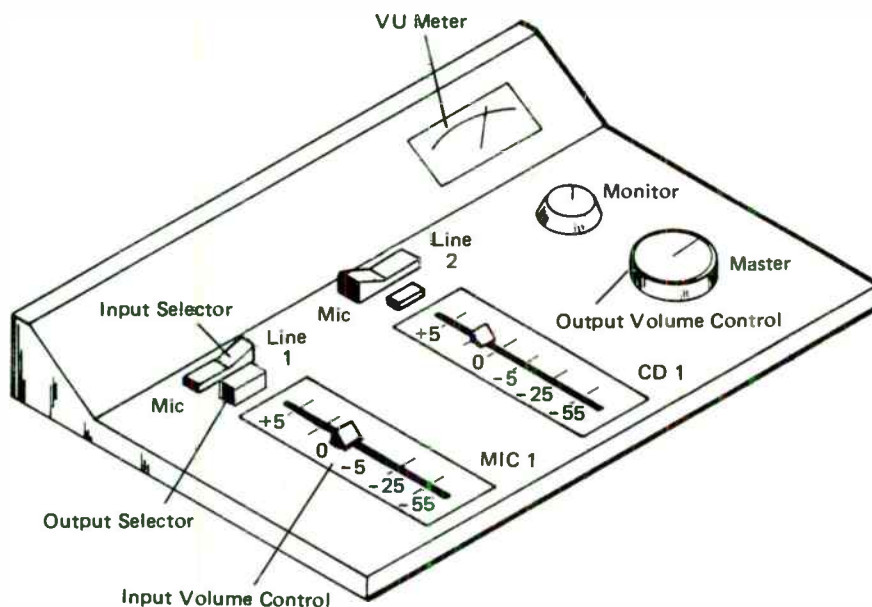

FIGURE 2.2A Simplified audio console.
All control boards operate in basically the same way. For purposes of simplicity, let's assume a very small monaural audio console with two inputs (one for a microphone and one for a CD player) and one output, which goes to the radio station transmitter. Look at Figure 2.2A. This is considered a two-channel board with the microphone assigned to channel one and a CD player assigned to channel two. In general terms, a **channel** refers to the path an audio signal follows. On an audio console, a channel refers to a group of switches, faders, and knobs that are usually associated with one sound source. On this board, note the individual input selectors, output selectors, and input volume controls associated with channel one and channel two. The output gain control, VU meter, and monitor gain control are associated with both channels.
The way the input selector switches in Figure 2.2A are
Our simple audio board has only one VU meter, which indicates the volume of the sound going out (review Figure 2.2A). Many boards have multiple VU meters. For example, they might have separate meters for each input. On our simple board, if the meter is peaking in the red, we would not know just by looking at the VU meter if the mic or the CD player is the culprit. But separate meters for the mic and CD player would show which had the high volume. Boards also have multiple meters if they have multiple outputs. For example, a board that is stereo will have one meter for the right channel and one for the left.
Another place that sound goes after program amplification is to the radio station transmitter. On the board in Figure 2.2A, the output selectors are just on/off buttons because the only place that the signal is intended to go is the transmitter. The configuration of **output selector** buttons, however, varies from board to board.
The only output gain control on our simple board in Figure 2.2A is called the **master fader** because the signal is intended to go only one place. If both output select buttons are in the down (on) position and the master fader is up, the signal will go to the transmitter. It is, of course, possible to send the microphone but not the CD player signal or vice versa. Also, if both buttons are on but the master fader is all the way down, the signal will not be transmitted.
3. In Figure 2.2A, if the fader were at -5 and you changed it to -25 , you would have d.
4. In Figure 2.2A, sound would not get to line out on channel one because _____.